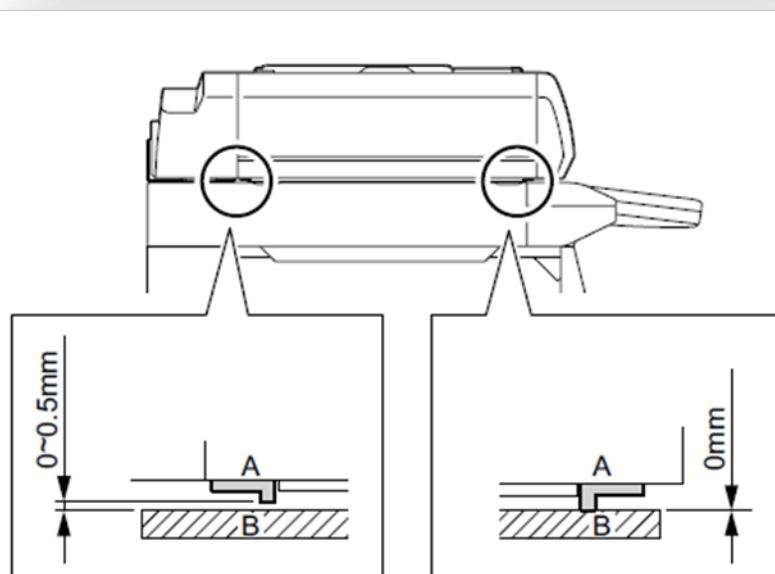

Fig. 1
- (1) Turn the power ON with the main power switch while pressing [0] and [3] simultaneously.
- (2) [267] → [START] button. The exposure lamp is turned ON for a certain period of time.
3. Visually check the gap between the platen guide holder A and the upper surface of the original glass B from the direction of the paper exit. (Fig. 1)